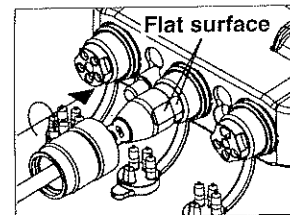

Figure 9
4. Secure the cable and socket with the coupler. (Figure 9)